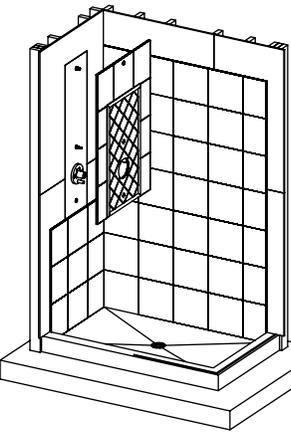

figure 22
11. Inspect, making sure all top panels are square and straight. Also make sure faucet holes are positioned properly (fig. 22).